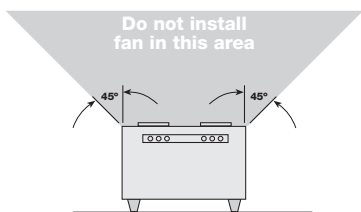

Figure 6
- For best performance, choose a location with the shortest possible duct run and minimum number of elbows. Do not mount intake grille near cooking equipment, shown in Figure 6.